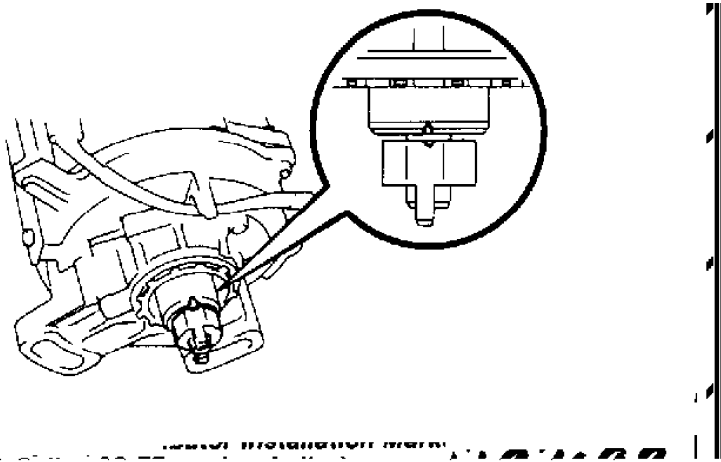

Fig. 1: Aligning Distributor Cut-Out Marks (Typical)
1) Set cylinder No. 1 to TDC of compression stroke. Coat new "O" ring with oil and install onto distributor housing. Align mark of drive coupling with groove on distributor housing. See Fig. 1.